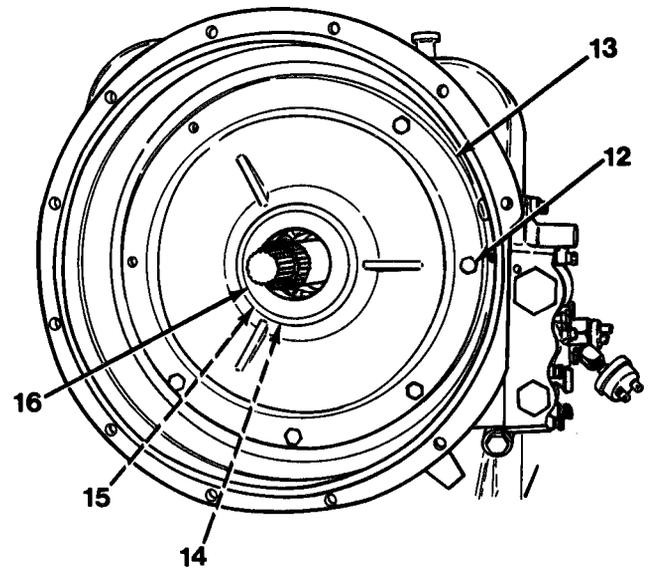
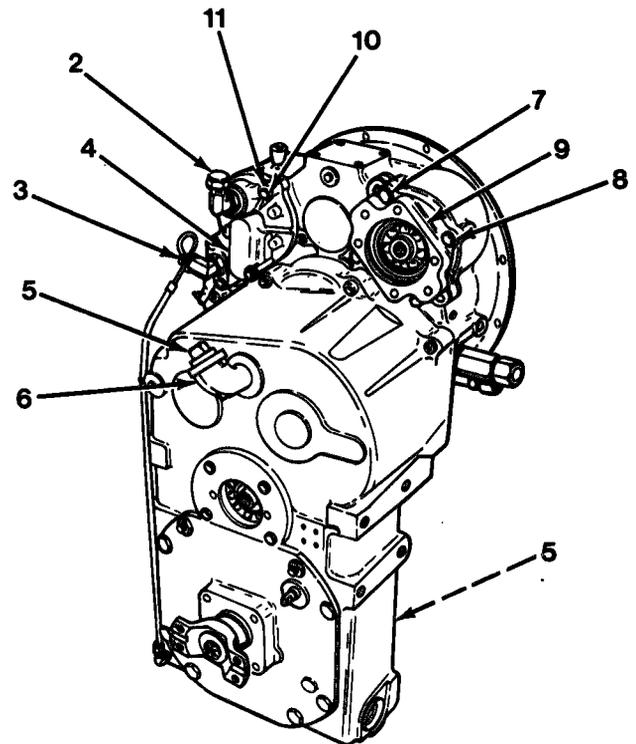

Figure 11-3
Figure 11-2
45. Install bearing retainer (13) with snap ring (14), bearing (15) and oil seal (16, Figure 11-3), together as an assembly on front cover, noting matchmarks made during disassembly.
46. Install seven capscrews (12) to secure bearing retainer (13).
47. Install charge pump assembly (4), noting marks made during disassembly, and secure with four starwashers (11) and capscrews (10, Figure 11-2).
48. Install main pump adapter assembly (9) and secure with four lockwashers (8) and capscrews (7). Note matchmarks made during disassembly.
49. Install elbow (6) and two plugs (5) in transmission.
50. Install elbows (3) and (2) to charge pump assembly (4).